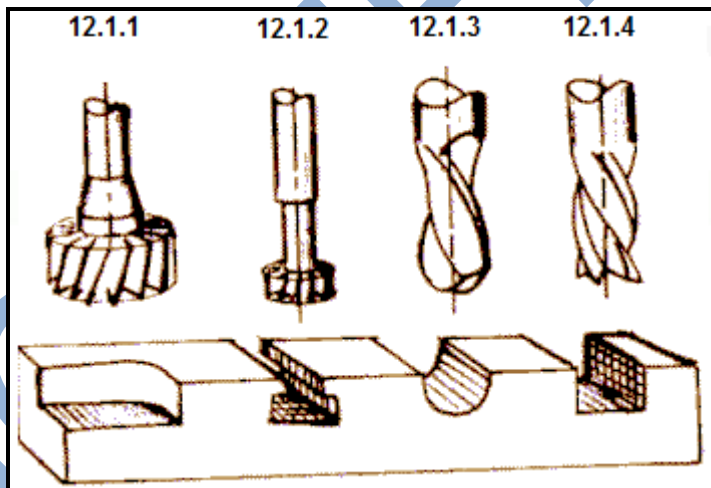

FIGURE 5
12.1 Name the FOUR types of milling cutters shown in FIGURE 5. Write only the answer next to the question number (12.1.1 – 12.1.4) in the ANSWER BOOK.